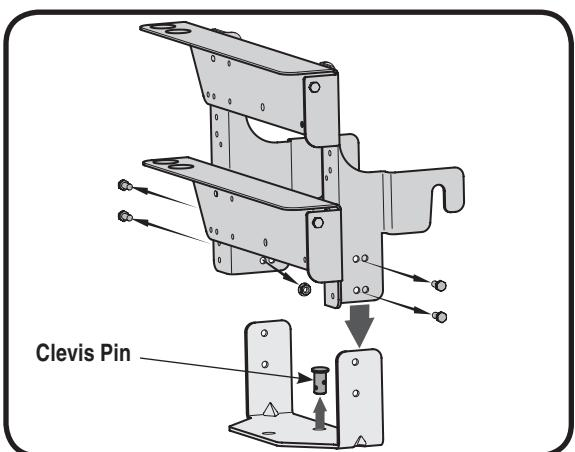

Figure 14
- Remove the two nuts and screws on each side of the mounting bracket holding the hitch plate. See Figure 14.
- Remove the hairpin clip and clevis pin from the hitch plate as seen in Figure 14. Save the hardware.